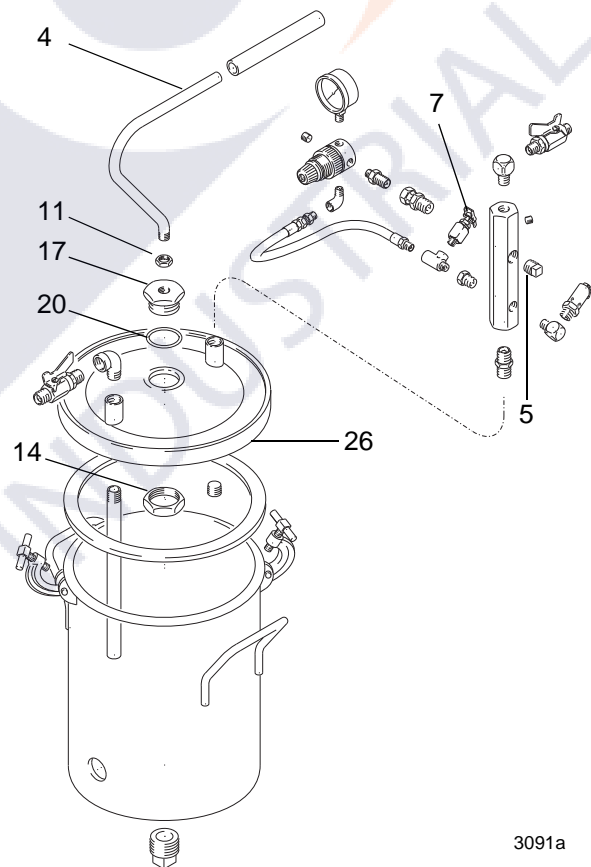

FIG. 3
2. Open the drain cock fitting (7) by turning it counter-clockwise. Refer to FIG. 3.
4. Leave the drain cock fitting (7) open until you have reinstalled the cover or fill port.
To add a second air regulator to control air to a spray gun, see **Accessories** on page 21 for Gun Air Regulator Kit. The second air regulator installs in place of pipe plug (5). See FIG. 3.
2. Remove the cover (26) from the tank. Remove the hex jam nut (14) from bottom of the cover. Remove the o-ring (20), adapter plug (17), and handle (4). Keep the hex jam nut (14). See FIG. 3.